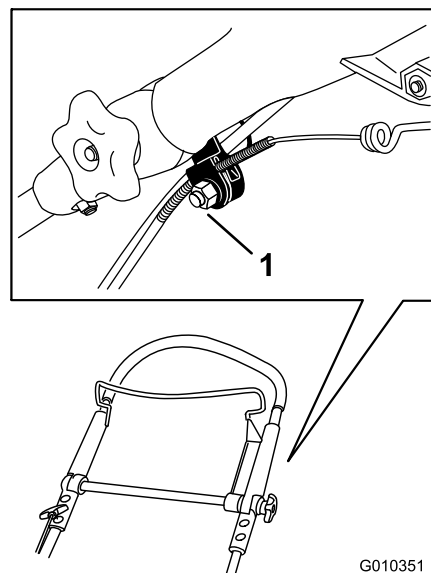

**Figure 45**
2. Push the upper handle fully down and spray the inner plastic surface of the outer handle (Figure 45).